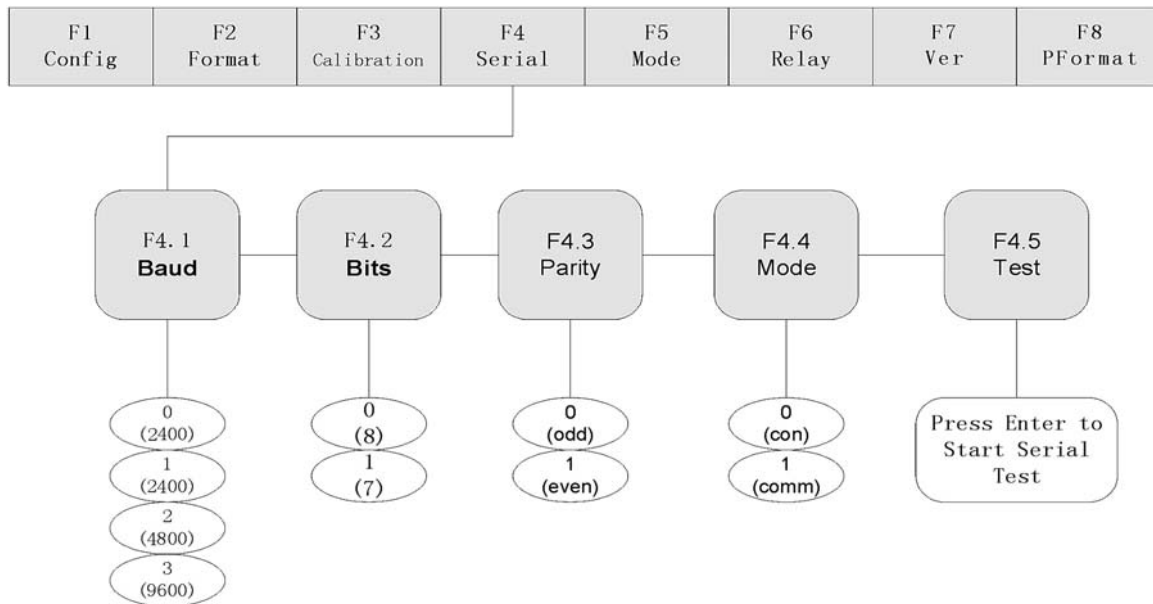
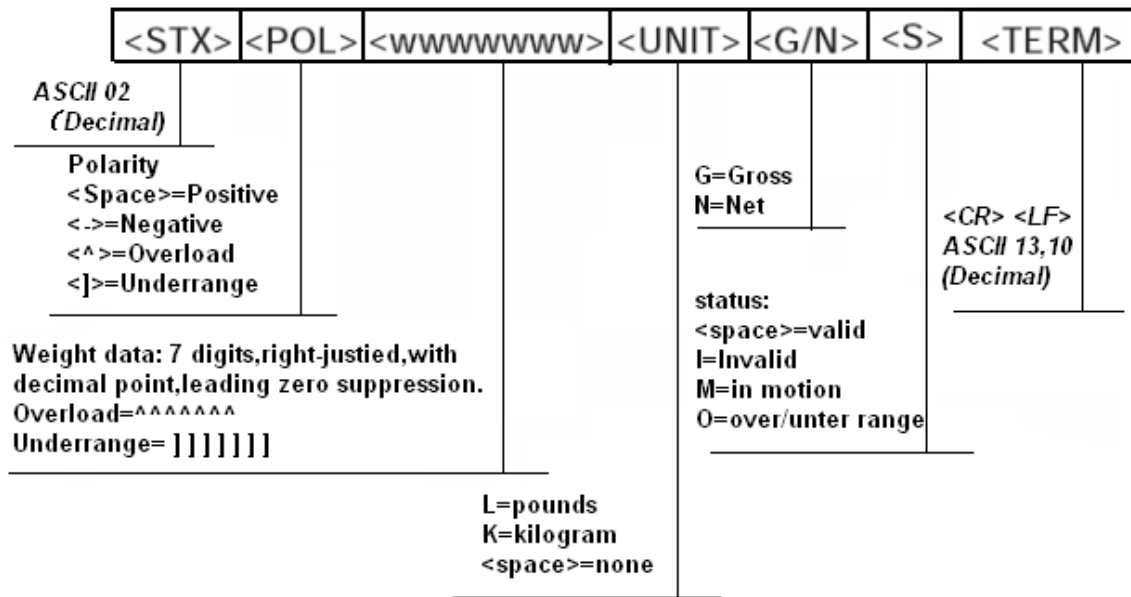

Fig. 8-1 Serial Communication Menu
Fig. 8-2 Format of Continuous Transmission
- (1) Turn on the K1 switch to set indicator to the Configuration mode. Display shows "F1"
- (2) Press  $\blacktriangleright$  until display shows "F4" (see Fig. 8-1). Press  $\blacktriangledown$  to go to F4 Menu. Display shows "F4.1".
- (3) When display shows "F4.1", press  $\blacktriangleright$  until display shows "F4.4".
- (4) When display shows "F4.4", press  $\blacktriangledown$  to show serial communication code. Use  $\blacktriangleright$  to set serial communication code to 0 (data transmitted continuously).
- (5) Turn off the K1 switch to exit from Calibration mode and enter into Weighing Mode. After selecting continuous transmission mode (F4.4=0), indicator transmits data continuously according to Fig. 8-2.
- (1) Turn on the K1 switch to set indicator B to the Configuration mode. B display shows "F1".
- (2) Press  until B display shows "F4" (see Fig. 8-1). Press  to go to F4 Menu. B display shows "F4.1".
- (3) When B display shows "F4.1", press  until B display shows "F4.5".
- (4) When B display shows "F4.5", press . B indicator sends command to A indicator,